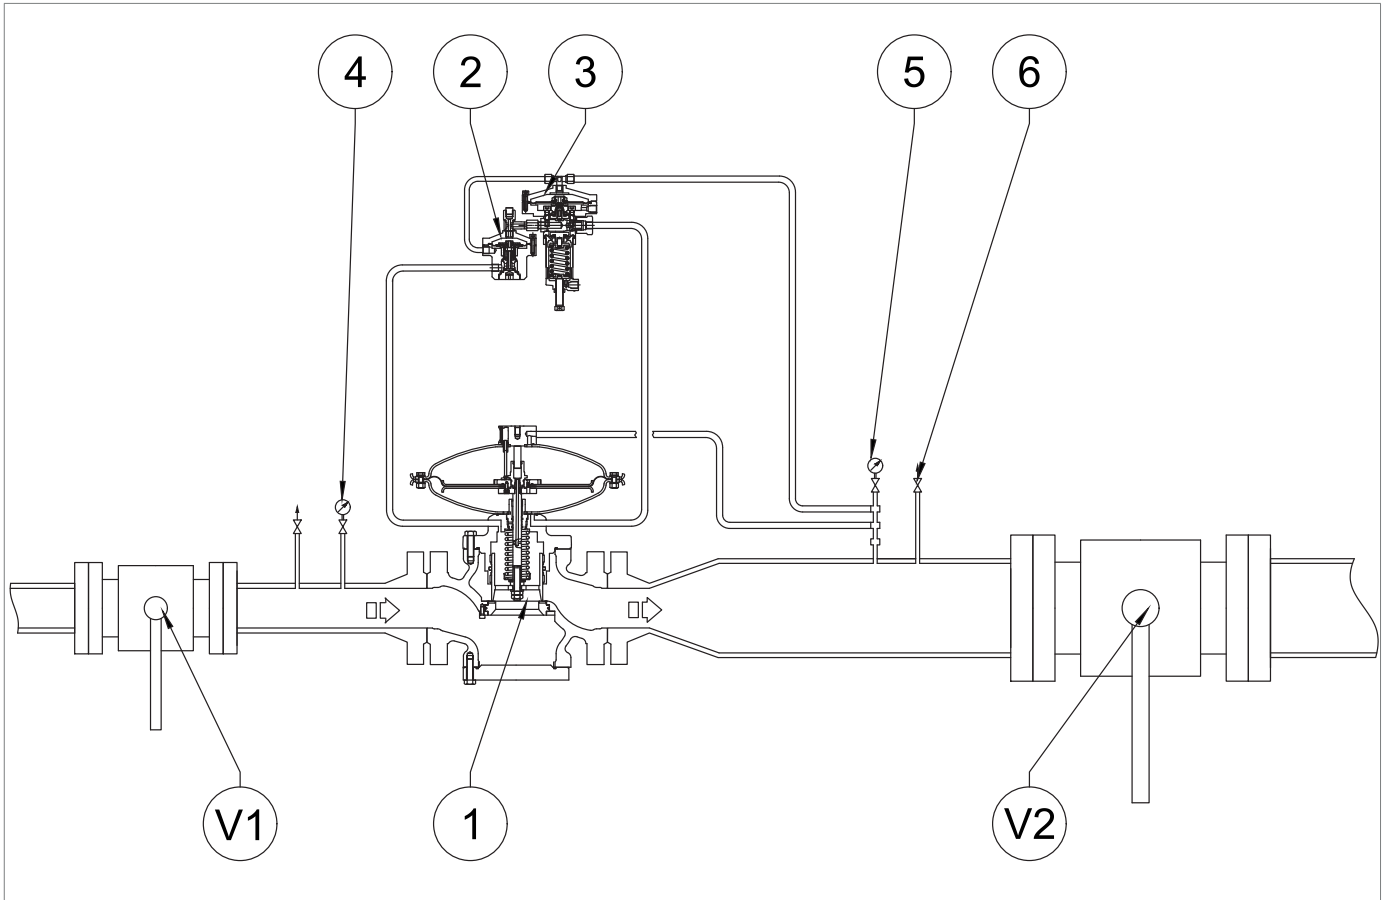

Fig. 8.32. Commissioning the regulator REVAL 182
1	<div style="border: 1px solid blue; padding: 5px; margin-bottom: 5px;">  NOTICE! </div> <p>Check the pressure referring to the pressure gauge (fig. 8.32, ref. 5) downstream of the main regulator.</p> <p>If the slam-shut valve:</p> <ul style="list-style-type: none"> • trips before the expected pressure value: screw in (clockwise) the adjustment ring nut (13) so as to further compress the spring (11); • does not trip at the expected pressure value: unscrew (anti-clockwise) the adjustment ring nut (13) so as to relieve the spring (11).
2	By opening the drain cock (fig.8.32, ref. 6), decrease the pressure in the downstream section to the calibration value of the main regulator.
3	Close the drain cock (fig. 8.32, ref. 6).